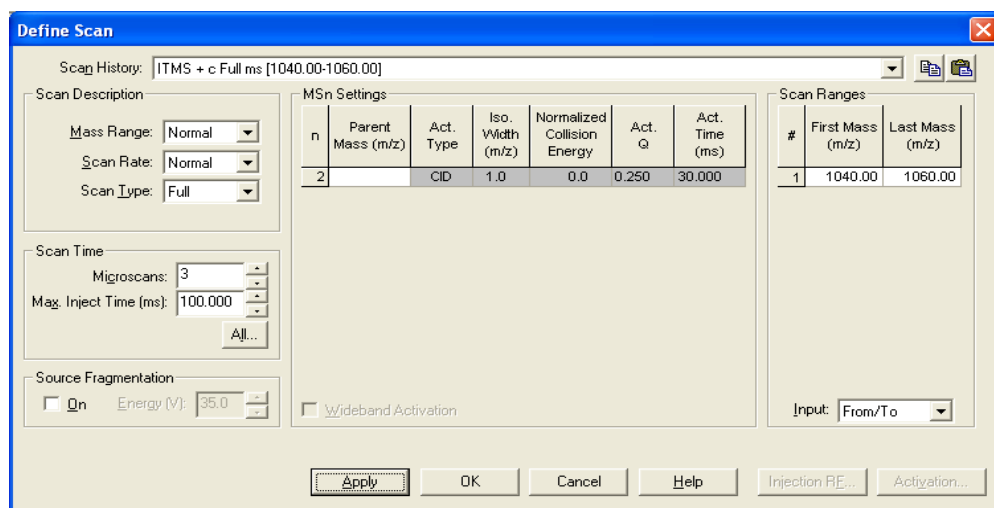

Figure 7.34. Define Scan as shown in XCalibur
4. Set the scanning to a narrow mass range(see Figure 7.34):